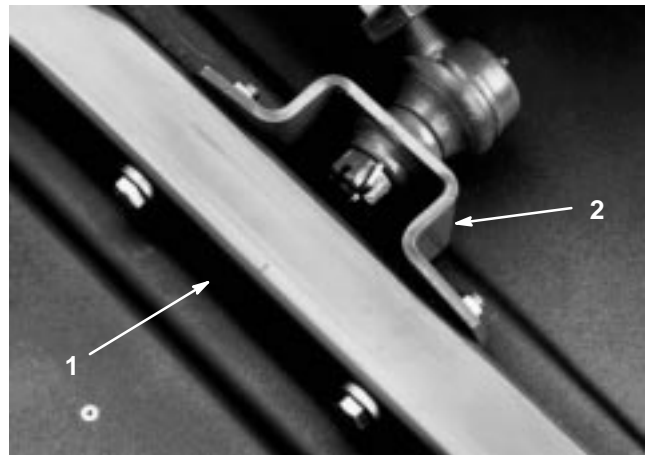

Figure 27
2. Remove the capscrews, flat washers, and locknuts securing the ball joint mounts to the castor arms on the cutting unit (Fig. 27).
4. Move the lift lever to the Float position. Push the lift arms down until the holes in the ball joint mounts line up with the holes in the castor arms (Fig. 27).
5. Secure the ball joint mounts to the castor arms with the capscrews, flat washers, and flange nuts. Position the flat washers to the outside of the castor arm (Fig. 27).